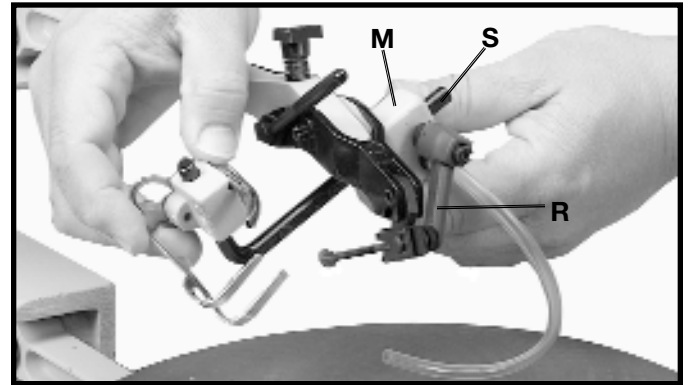

Fig. 12
10. Rotate bracket (M), to the position shown in Fig. 12. Loosen lock handle (R) and insert holddown rod (S) into hole in bracket (M), as shown.